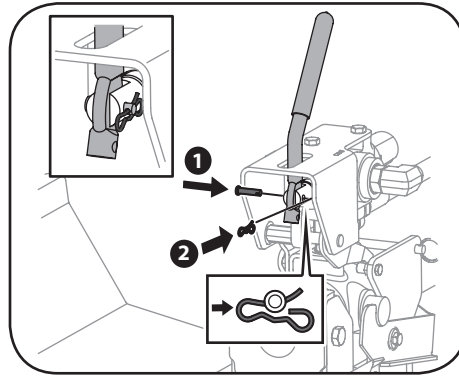

Figure 3-2
3. Install the clevis pin and hairpin clip to the handle. See Figure 3-2.